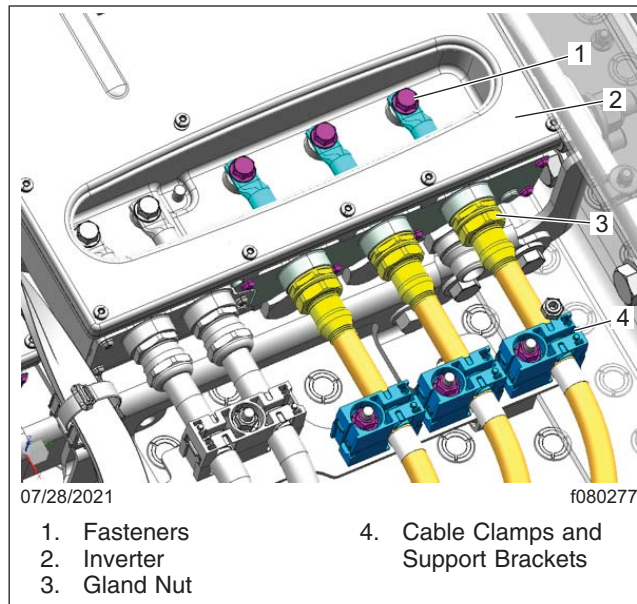
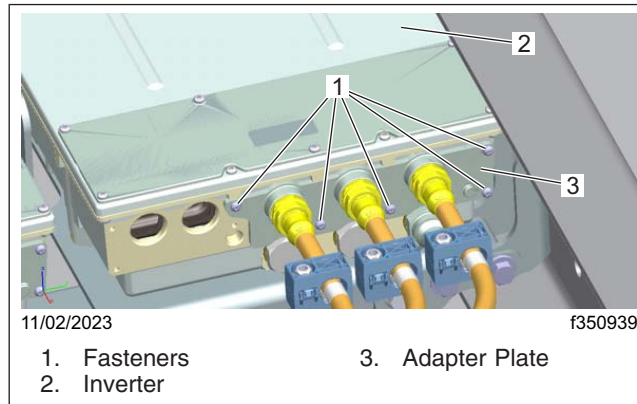

Fig. 4, Inverter Side High Voltage Cables
Fig. 6, Fasteners on the Rear Side of the Inverter
11. Remove the high voltage (HV) cable clamps and the mounting fasteners from the HV cable support brackets. Then, remove the support brackets. See Fig. 4.
14. Remove the fasteners that secure the HV cables from the e-Axle to the rear side of the inverter. See Fig. 6 and Fig. 4.